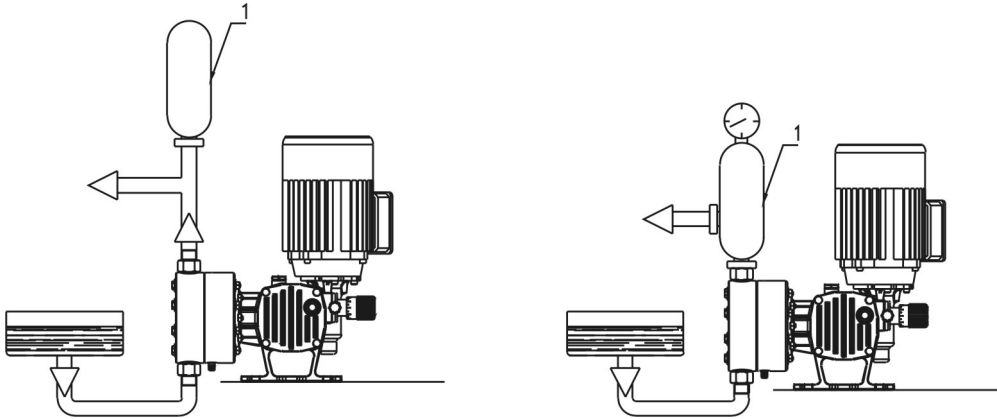

Fig. 5 - Layout of Pulsation Damper
5.3.3 Pulsation Damper. (Ref.1 - Fig.5)